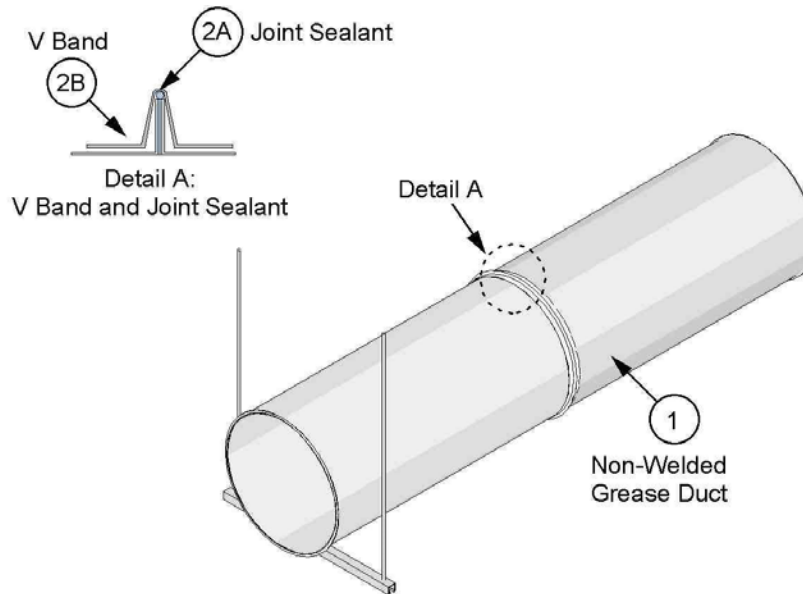

Figure 1. Non-Welded Grease Duct Model No. KDW
- B. **V BAND –** Use the supplied V band (see Figure 1). Place the loose V band, filled with sealant (Item 2A), over one of the